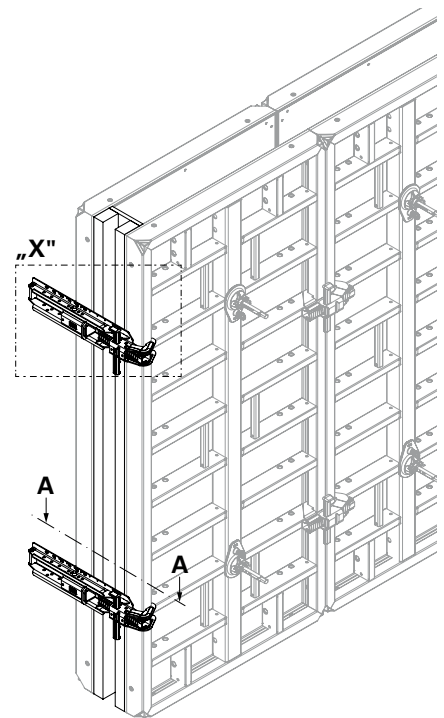

Fig. B10.02
- Perm. fresh concrete pressure 60 kN/m² (Fig. B10.02 + B10.01b)